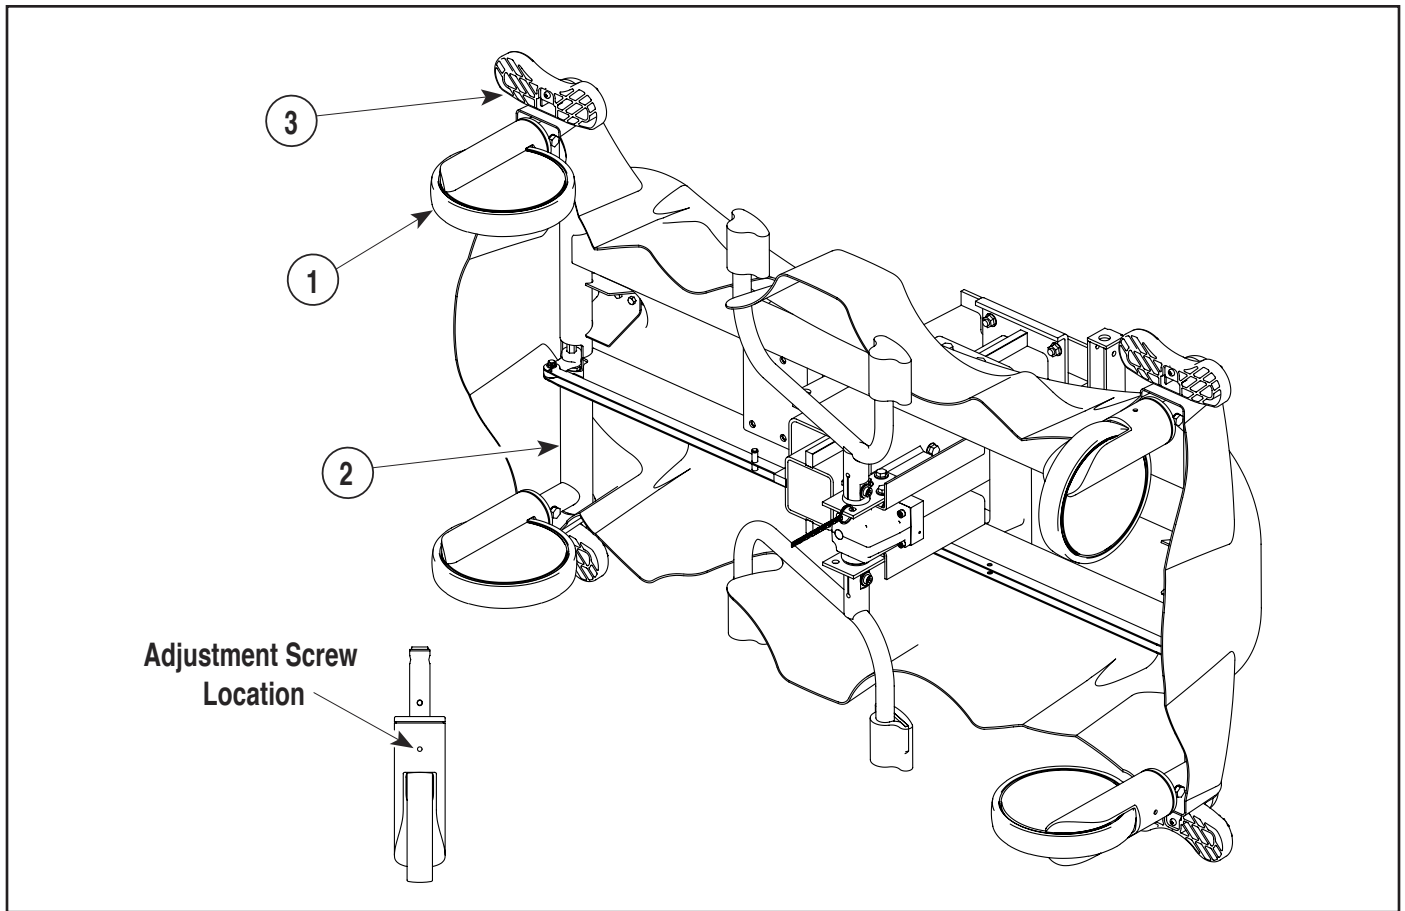

Figure 4-10 Caster Brake Adjustment
- (1) Depress the caster control pedal to the neutral position.
- (2) Using a 1/4 inch drill, remove the protective tab on the back of the caster to gain access to the adjustment screw. (See Figure 4-10)
- (3) If the brake needs to be tightened, using a flat head Phillips screw driver, turn the screw clockwise in 1/4 turn increments, which moves the brake shoe towards the caster wheel.
- (4) If the brake needs to be loosened, turn the screw counter clockwise in 1/4 turn increments, which moves the brake shoe away from the caster wheel. Only rotate a maximum of 3/4 turn from its original position. If still loose, replace caster per Section 4.8.
- (5) Depress the caster control pedal (1) to the brake position and check the braking action of the caster assembly (3).
- (6) Repeat steps 2 thru 5 until brakes are adjusted properly.